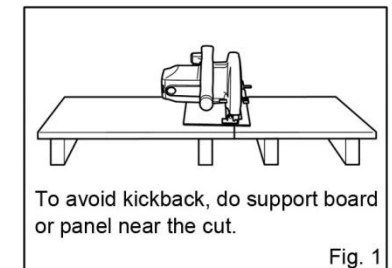

Fig. 1
- Support large panels to minimize the risk of blade pinching and KICKBACK. Large panels tend to sag under their own weight. Supports must be placed under the panel on both sides, near the line of cut and near the edge of the panel. (Fig. 1)
To minimize the risk of blade pinching and kickback, when cutting operation requires the resting of the saw on the workpiece, the saw should be rested on the larger portion and the smaller piece cut off. (**Fig. 1&2**)